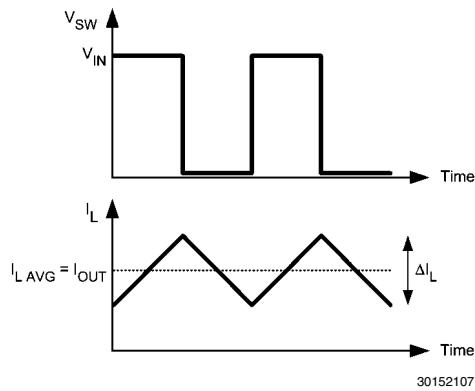

FIGURE 8. Switch and Inductor Current Waveforms
The inductor (L) used in the application will influence the ripple current and the efficiency of the system. The first selection criteria is to define a ripple current, ΔI_L . In a buck converter, it is typically selected to run between 20% to 30% of the maximum output current. *Figure 8* shows the ripple current in a standard buck converter operating in continuous conduction mode. Larger ripple current will result in a smaller inductance value, which will lead to lower inductor series resistance, and improved efficiency. However, larger ripple current will also cause the device to operate in discontinuous conduction mode at a higher average output current.